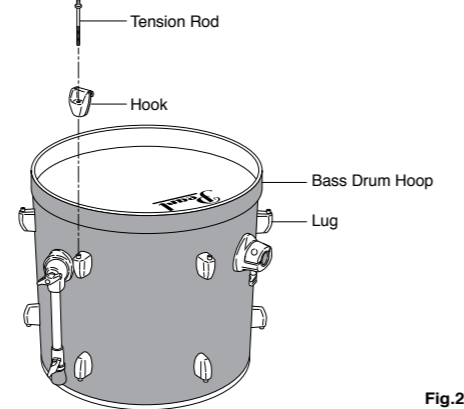

Fig.2
2. Pass a Tension Rod through a Hook, and hook it on the Bass Drum Hoop above a Lug. Finger tighten the Tension Rod into the Lug and do the same with the rest of the Tension Rods/Hooks on this side of the drum (Fig.2). Using a Tuning Key, tighten the Tension Rod until secure.